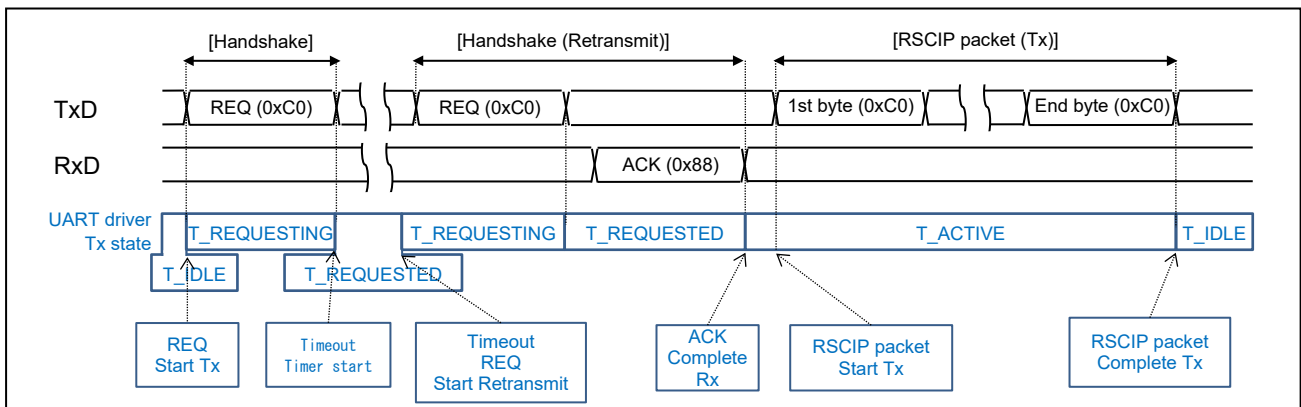

Figure 3-6 REQ byte transmission time-out
- (c) REQ byte transmission time-out (Figure 3-6)